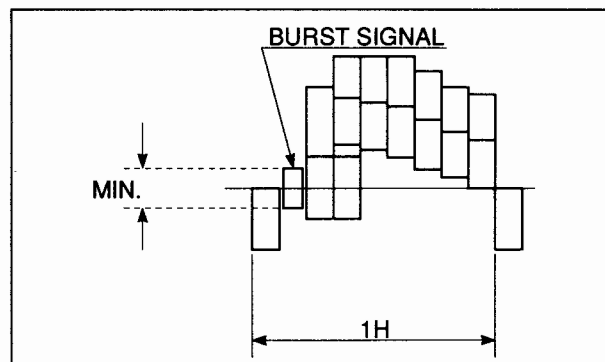

Fig. 7
3. Adjust T201 so that the waveform becomes minimum. (Refer to Fig. 7)